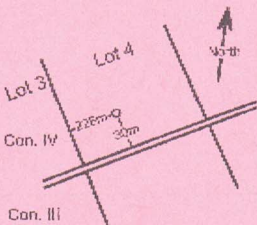
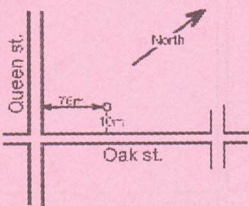
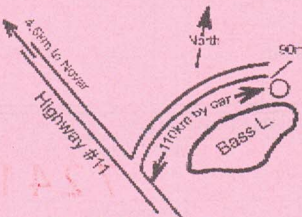

Fig. 1
Fig. 2
Fig. 3
- 11. Map of Well Location: Provide a map showing all property boundaries, and measurements sufficient to locate the well in relations to fixed points including an arrow indicating the North direction. In rural areas, one distance should be taken from a road and the other from either a road or a township lot line (Fig. 1). In a village, town or city, both distances should be taken from named streets (Fig 2). In areas where it is difficult to obtain lot and concession numbers, sufficient information should be supplied in the diagram so that the well can be related to a known unit such as a main highway, railway, or municipality (Figs. 3 & 4). Detailed drawings can be provided as attachments not larger than legal size (8.5" by 14").